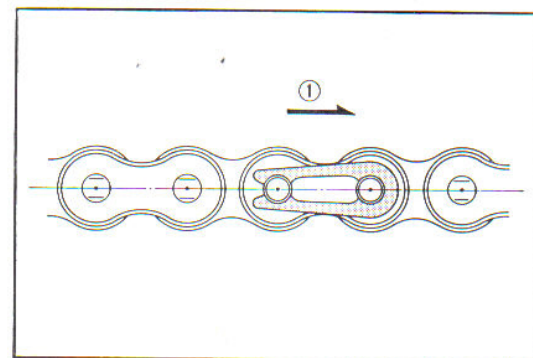

Fig. 4.103
5. Assemble the panel on the rear wheel and mount the wheel assembly on the frame. Install the drive chain and make the proper adjustment before final torquing of the rear wheel axle. (Fig. 4.103)